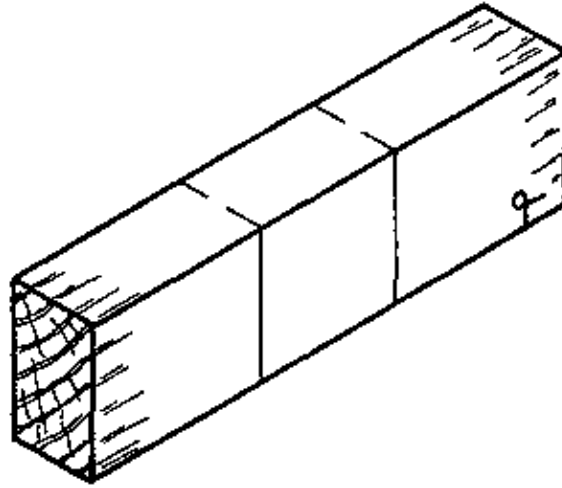

Fig. 2
- Mark the position of the pin on one member, making the distance between the shoulders equal to the width of the other piece. Square the lines all around the piece with a try square and pencil (Fig. 2).